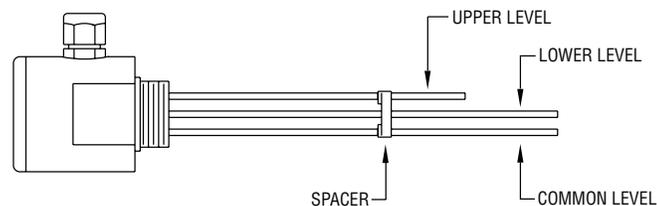

FIGURE 1
- Cut two (2) probes to the same length, these will be the common and lower level probes. See Figure 1.
- Cut one (1) probe to the desired length for the upper level of the tank. See figure 1.